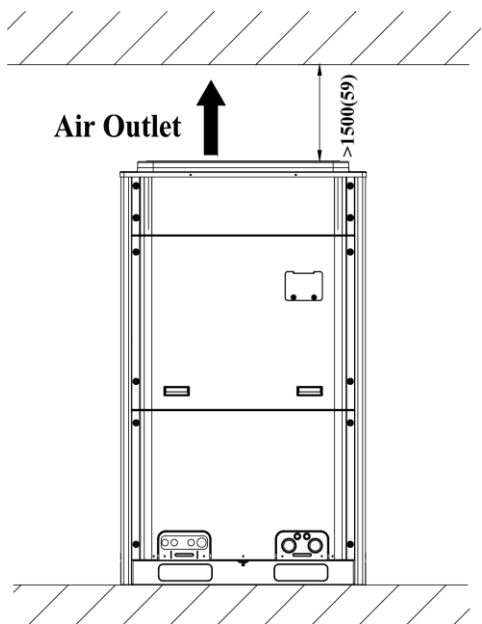
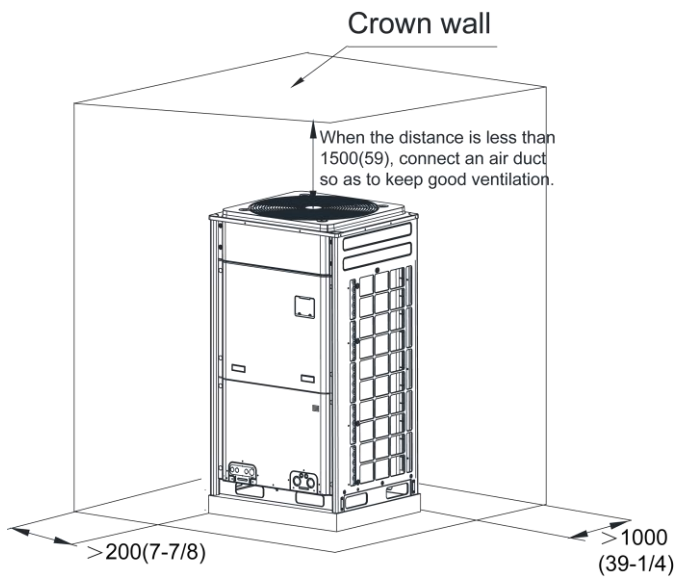

Fig.3.2.4
Fig.3.2.5
3.2.2 When there is wall (or similar obstruction) above the unit, keep the distance between the unit top and the wall at least 3000mm(118-1/8in.) or above. When the unit is located in a totally open space with no obstructions in four directions, keep the distance between the unit top and wall at least 1500mm(59in.) or above (See Fig.3.2.4). When space is limited within 1500mm(59in.) or the unit is not set in an open space, air outlet pipe is required to be installed in order to keep good ventilation (See Fig.3.2.5).